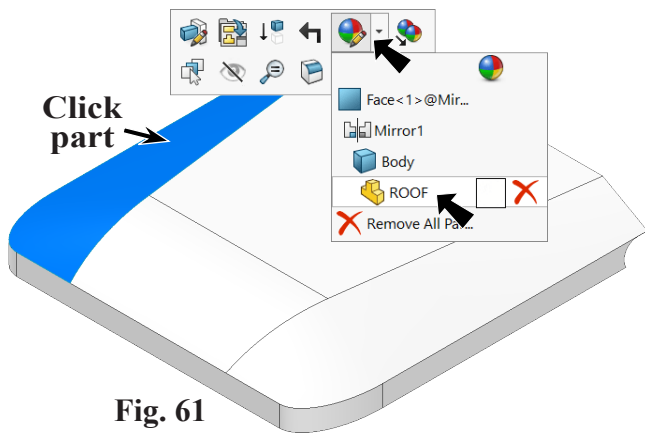

Fig. 61
Step 2. Click the **Roof** to select part, click **Appearances Callout**  on the context toolbar and click **Roof** , Fig. 61.